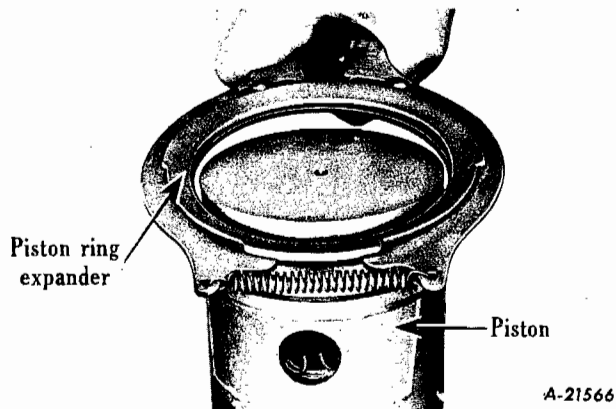

Fig. 59 - Installing piston ring using SE-1149-8 piston ring installing tool.
- When installing piston rings in piston grooves, be careful not to distort rings. If possible use a suitable piston-ring expander tool (Fig. 59). Also check new piston rings in piston ring grooves for clearance between ring and ring lands. The correct ring clearance is shown in specifications.